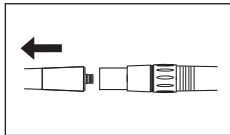

Fig. 16
- 5 Remove the handpiece from the coupling or hose (Fig. 16). Perform maintenance of the coupling according to the operation manual for the coupling.